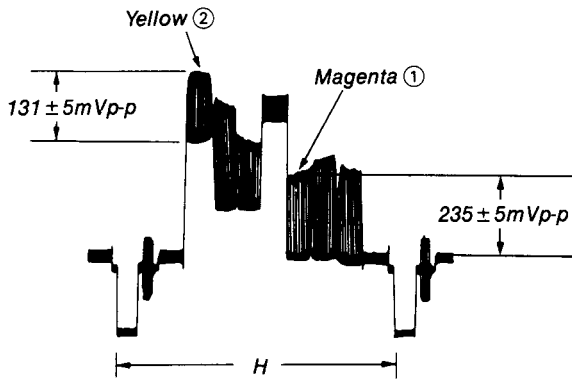

Fig. 7-36.
- 2) Adjust an amplitude of "magenta" to  $235 \pm 5mVp-p$  with RV808 of the VC-22 board. (See Fig. 7-36 ①)
- 3) Adjust an amplitude of "yellow" to  $131 \pm 5mVp-p$  with RV827 of the MX-2 board. (See Fig. 7-36 ②)